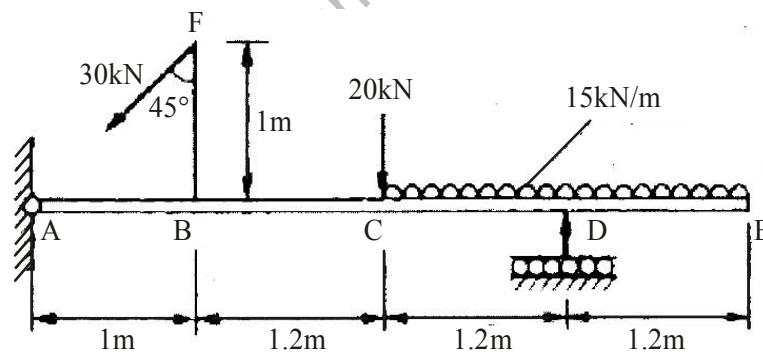

Fig.1
- Q8. A beam ABCDE is 4.6m in length and loaded as shown in Fig.1 below. Draw the S.F.D and B.M.D diagrams for the beam, indicating all major values and find the points of contraflexure, if any.